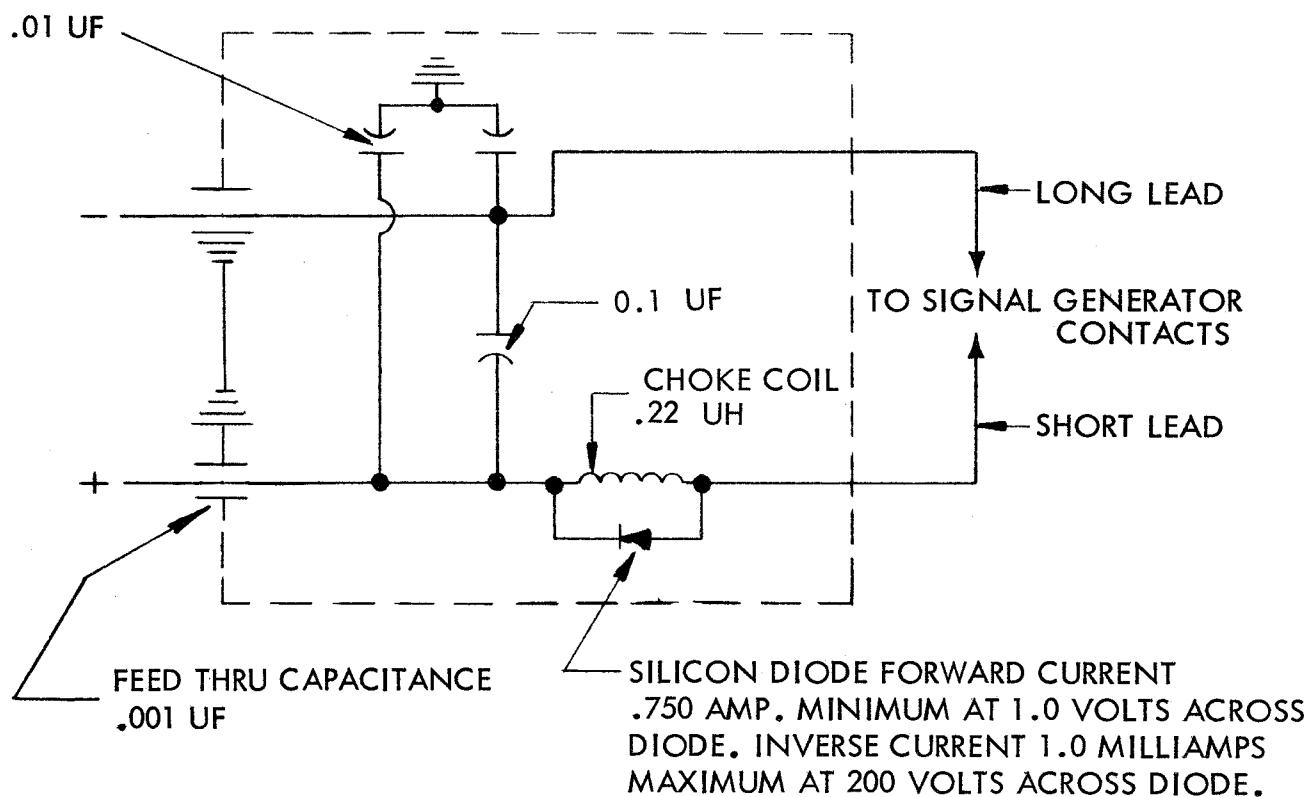

FIGURE 1. 154190 R.F. FILTER SCHEMATIC
e. For schematic diagram of the 154190 Filter, see Figure 1.